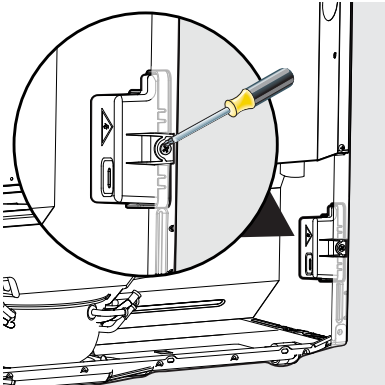

Figure 15
19. Remove the connector box from the unit with a Philips screwdriver. Discard screw. See Figure 15.